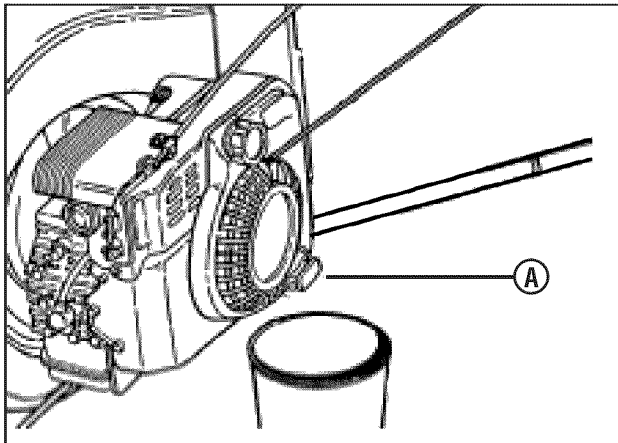

Figure 16: Draining the engine oil
2. Remove the dipstick (**A, Figure 16**), then turn the mower on its side. Allow the oil to drain from the oil fill tube into an appropriate container. Dispose of used oil properly.